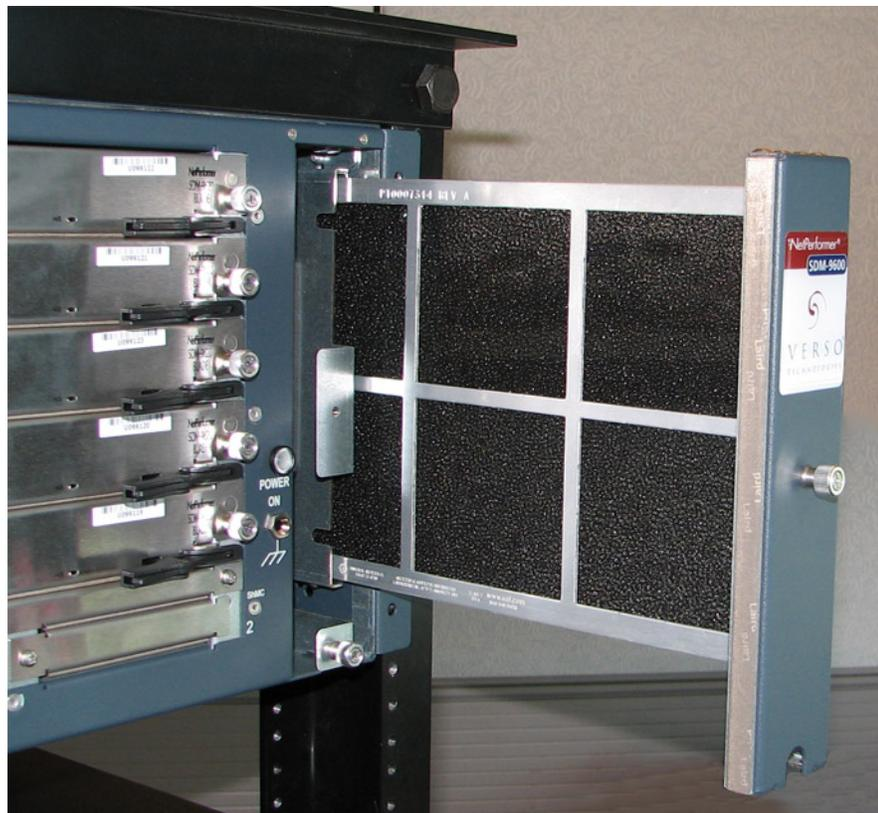

Figure 3-8: Accessing the Air Filter Tray
1. Unscrew the M2.5 screw located near the center of the fan unit front panel. Refer to Figure 3-8.